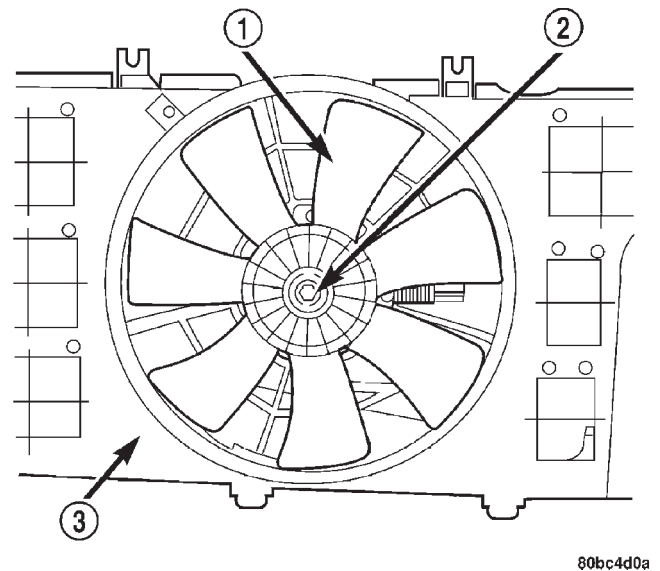

Fig. 38 Fan—Removal and Installation
- (1) Remove cooling fan module. Refer to procedure in this section.
- (2) Remove fan hub retaining nut (Fig. 38).
- (3) Remove fan from motor shaft.
- (1) Install fan on motor shaft.
- (2) Install fan retaining nut and tighten to 3.8 N·m (34 in. lbs.) (Fig. 38).
- (3) Install cooling fan module. Refer to procedure in this section.